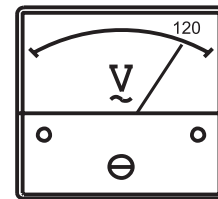

Figure 10. Voltmeter
6. The generator's **AC voltmeter** (Figure 10) will display the generator's output in **VOLTS**.